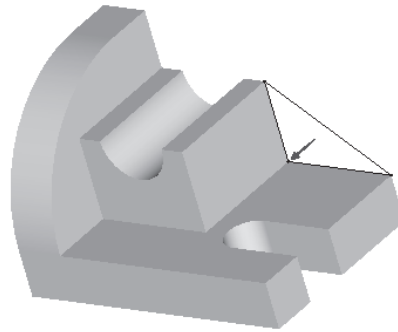

Figure 5-87 Arrow showing the direction of material addition
2. After the sketch is complete, choose the **Done** button. The **Extrude** dashboard is enabled. Use the middle mouse button to orient the model, as shown in Figure 5-87.